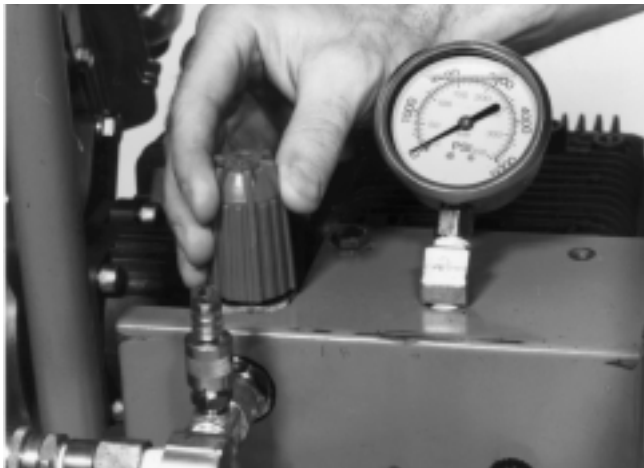

Figure 6 – Adjusting the Unloading Valve
1. Turn the unloader valve counter-clockwise to insure the pressure is backed down. (Figure 6)
7. Insert the jetter hose several feet into the drain and adjust the unloading valve to the desired pressure, up to 3000 PSI maximum (rotate clockwise to increase pressure) (Figure 6).